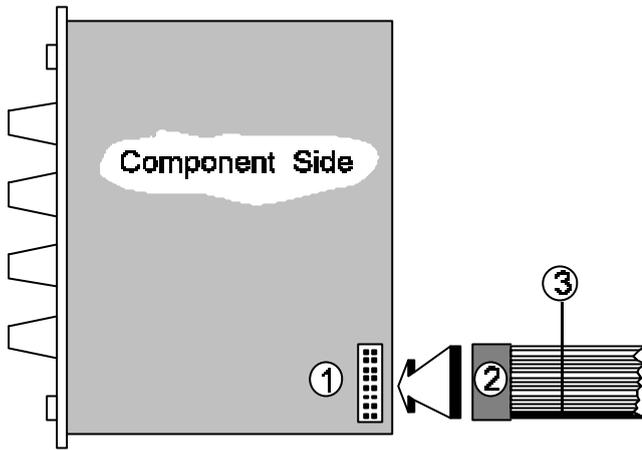

Fig. 2: Connecting the ribbon cable to the module
- D Plug the supplied **ribbon cable** into the module's **bus socket** (see 1 in Fig. 2). As a rule, the cable is 16-way, but some modules only have a 10-way cable. Look carefully at the cable, and then press the appropriate connector onto the module's bus pins (see 2 in Fig. 2).
A Check very carefully that it is connected so that the coloured marking on the ribbon cable is at the bottom of the module's connector (see 3 in Fig. 2), and that the connection is perfect, and **pushed fully home, not at a slight angle**. Failure to check this may result in the module's instant destruction as soon as the power is turned back on.